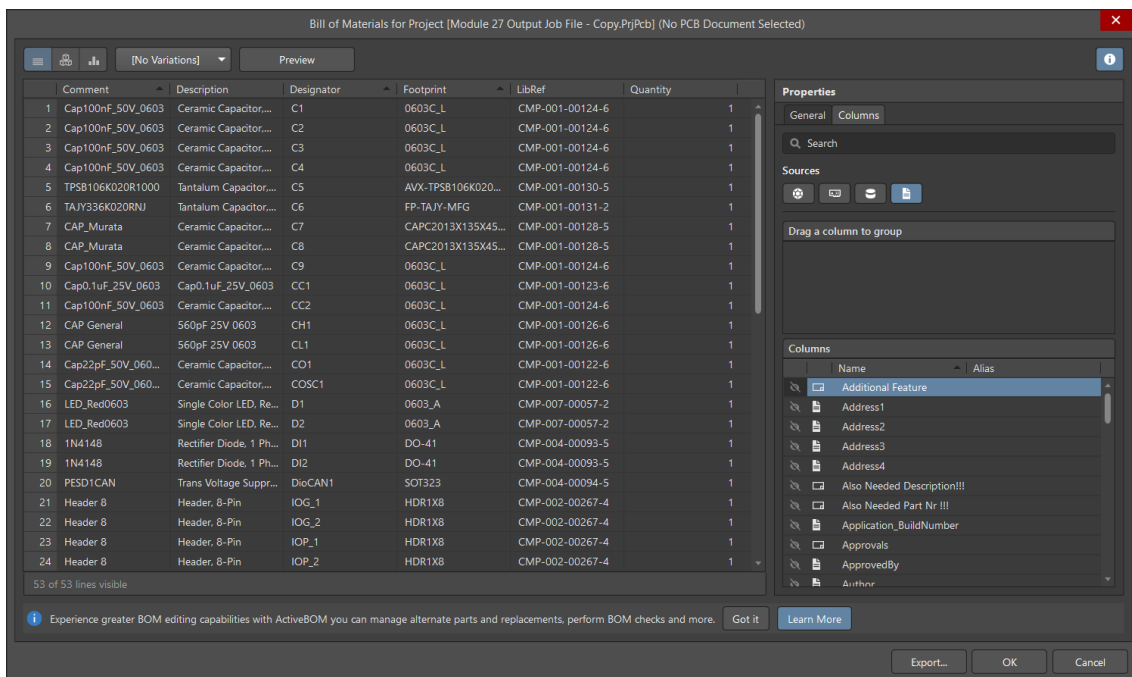

Figure 1. Bill of Materials dialog window
10. To generate a Bill of Materials (BOM), we can go to **Reports » Bill of Materials** from the schematic environment. The BOM dialog will appear as shown in Figure 1.